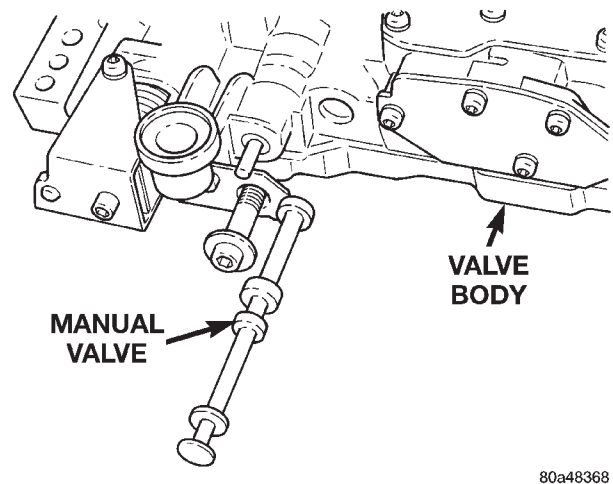

Fig. 65 Manual Valve
(41) Install manual valve into valve body (Fig. 65).